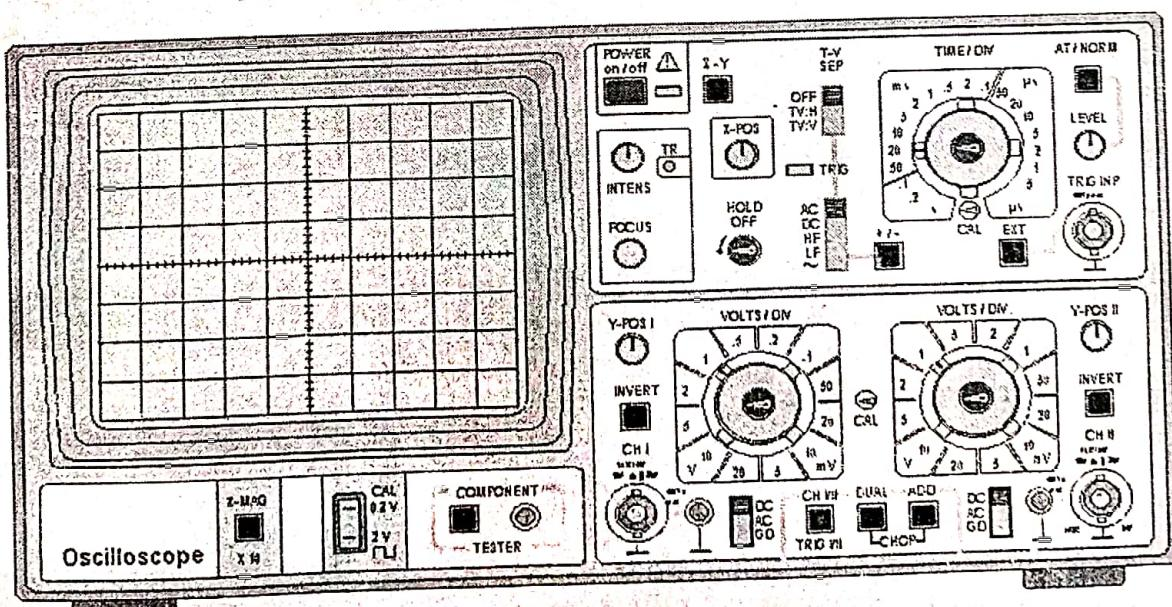

Fig.1 Cathode Ray Oscilloscope
**Introduction to CRO:** The cathode-ray oscilloscope (CRO) is a common laboratory instrument that provides accurate time and amplitude measurements of voltage signals over a wide range of frequencies. Its reliability, stability, and ease of operation make it suitable as a general purpose laboratory instrument. The heart of the CRO is a cathode-ray tube shown schematically in Fig. 1.